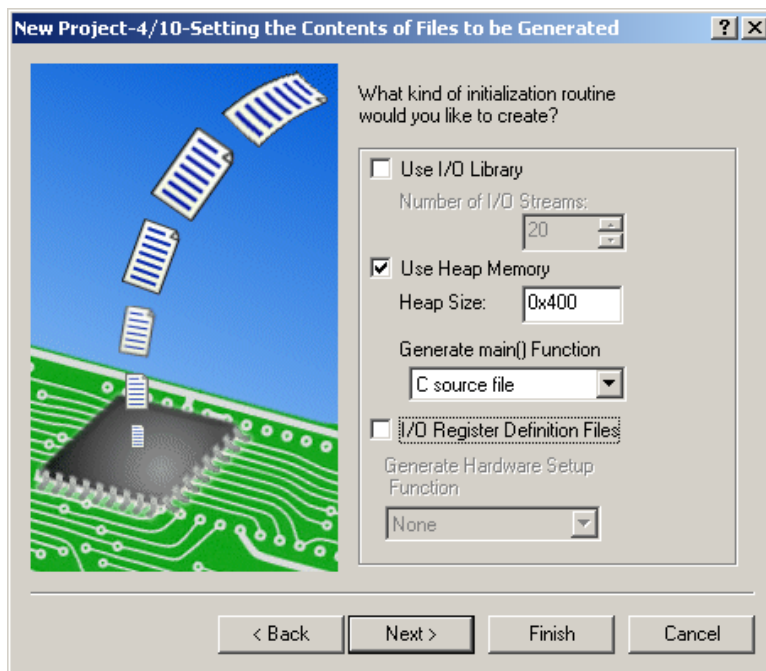

Figure 2-2 : New Project Window 4
Step 2.9 Continue to hit “Next” until you get to a window that says “New Project-4/10...” in the title bar and looks like Figure 2-2. Uncheck the box next to “I/O Register Definition Files”. Click “Next”.